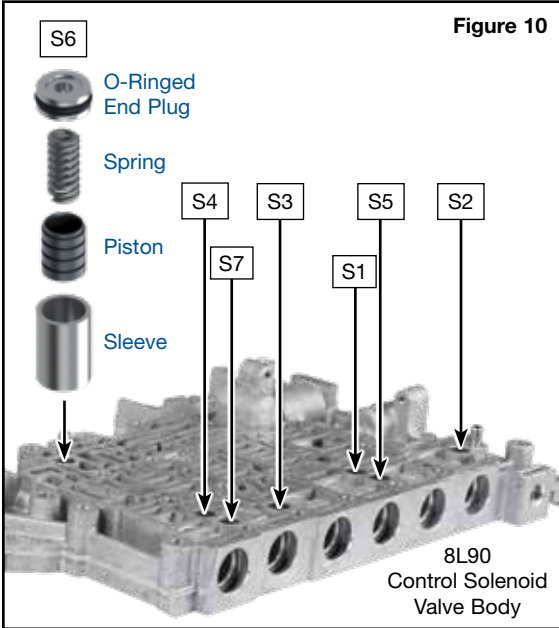

Figure 10
Step 13 Install Signal Accumulator Pistons (Figure 10)